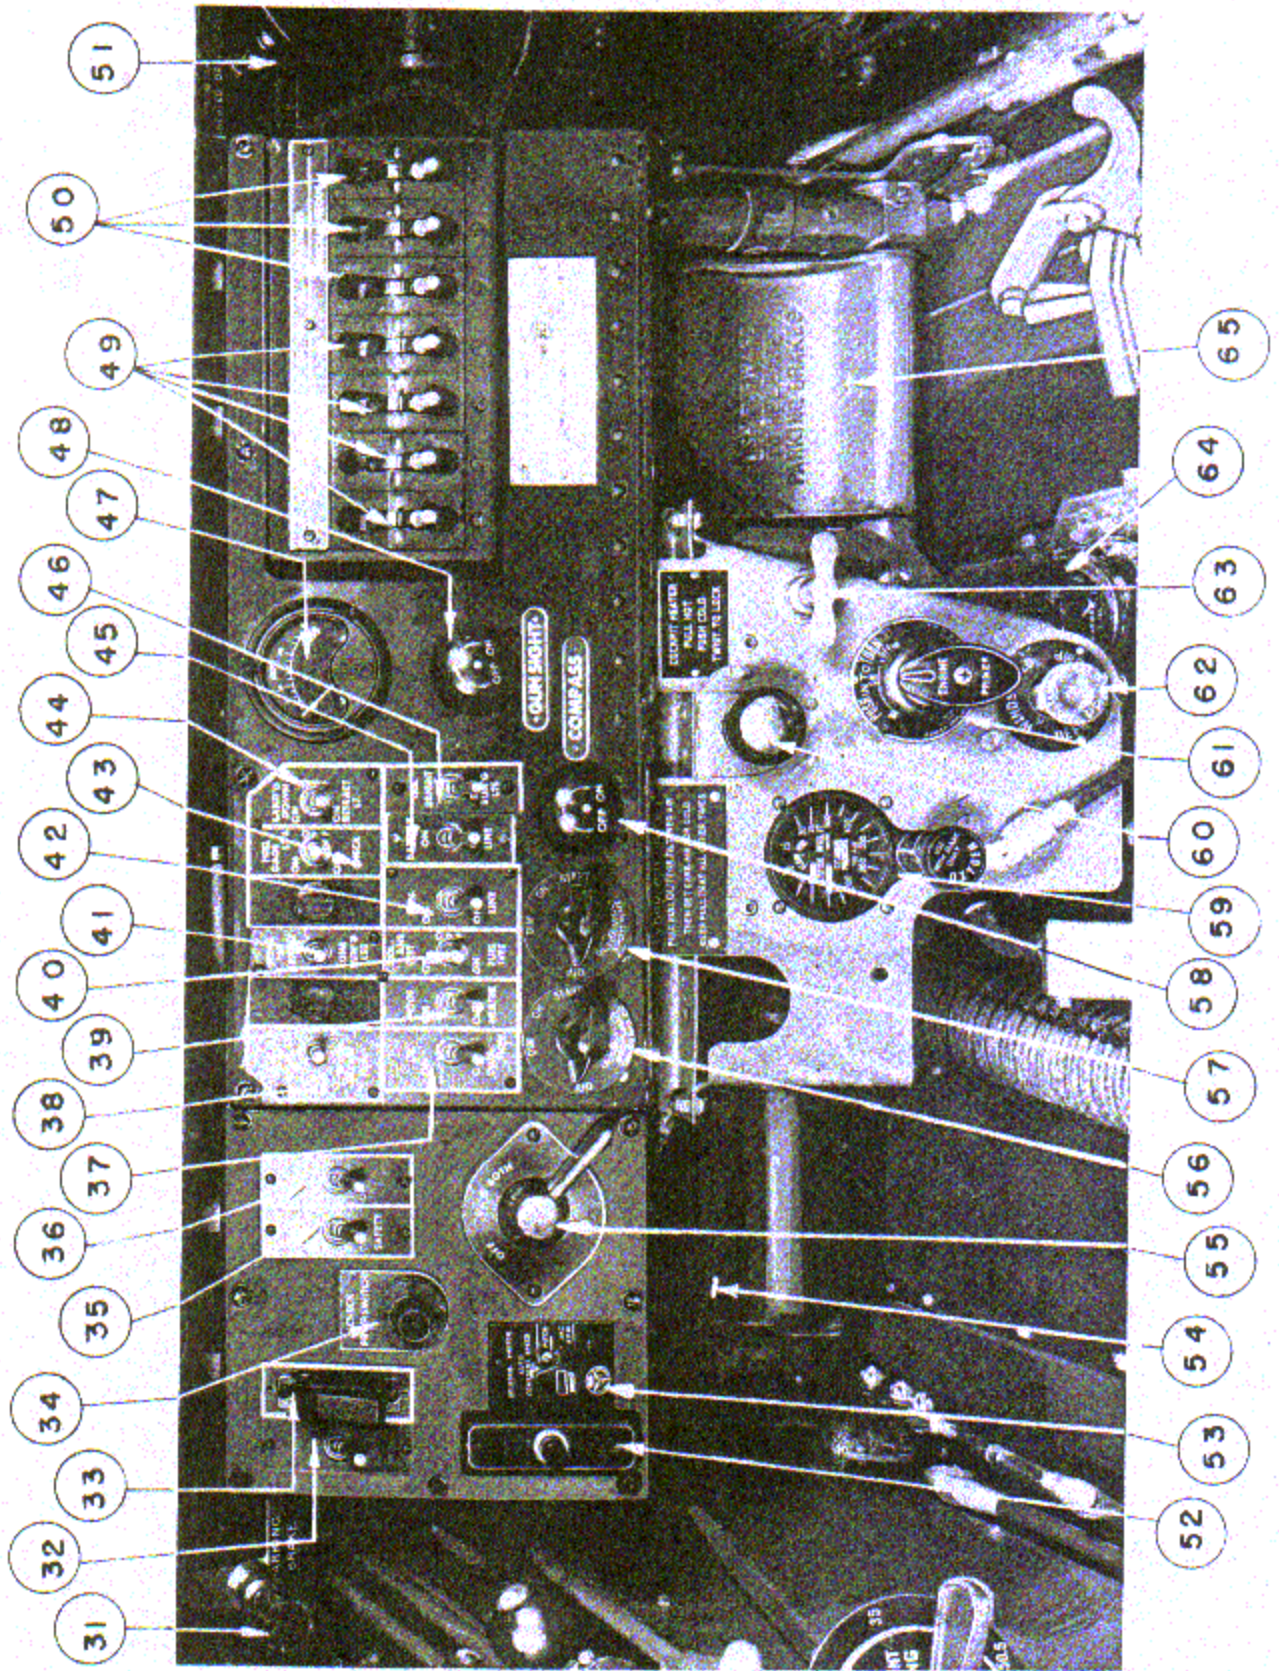
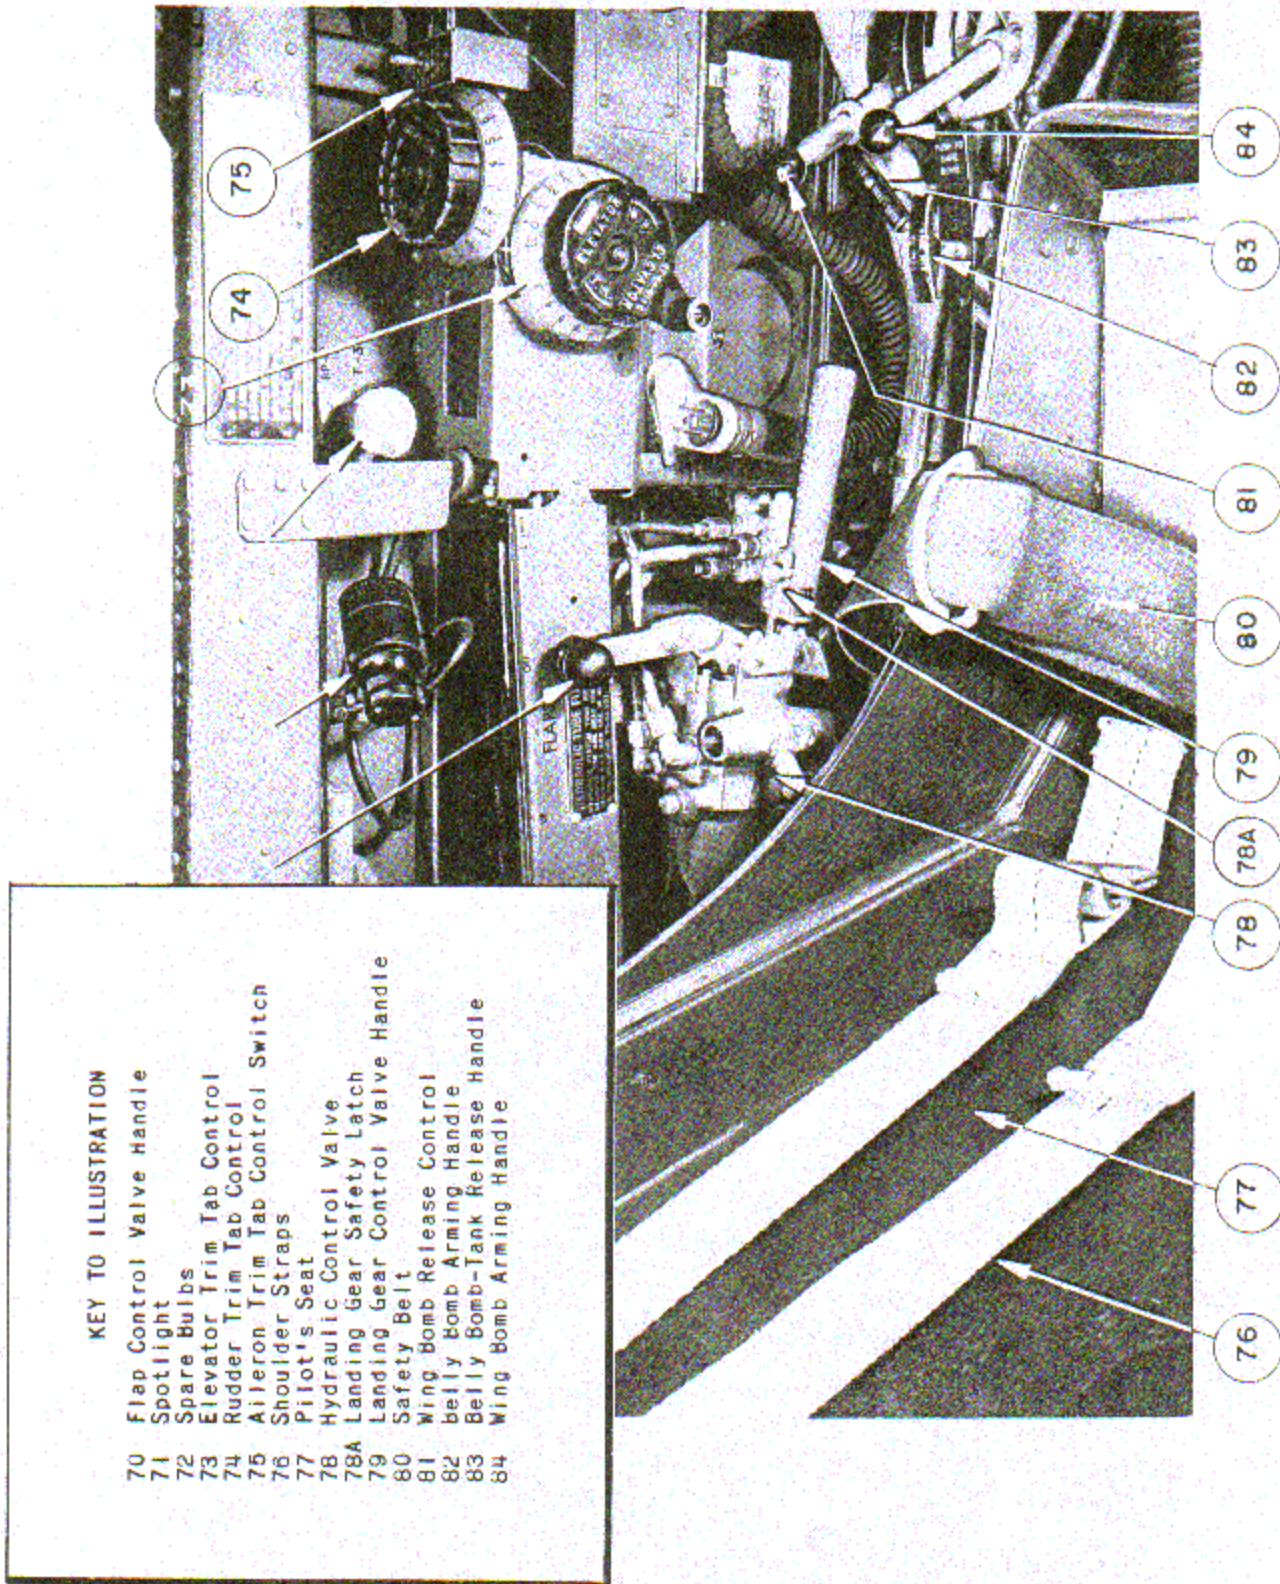
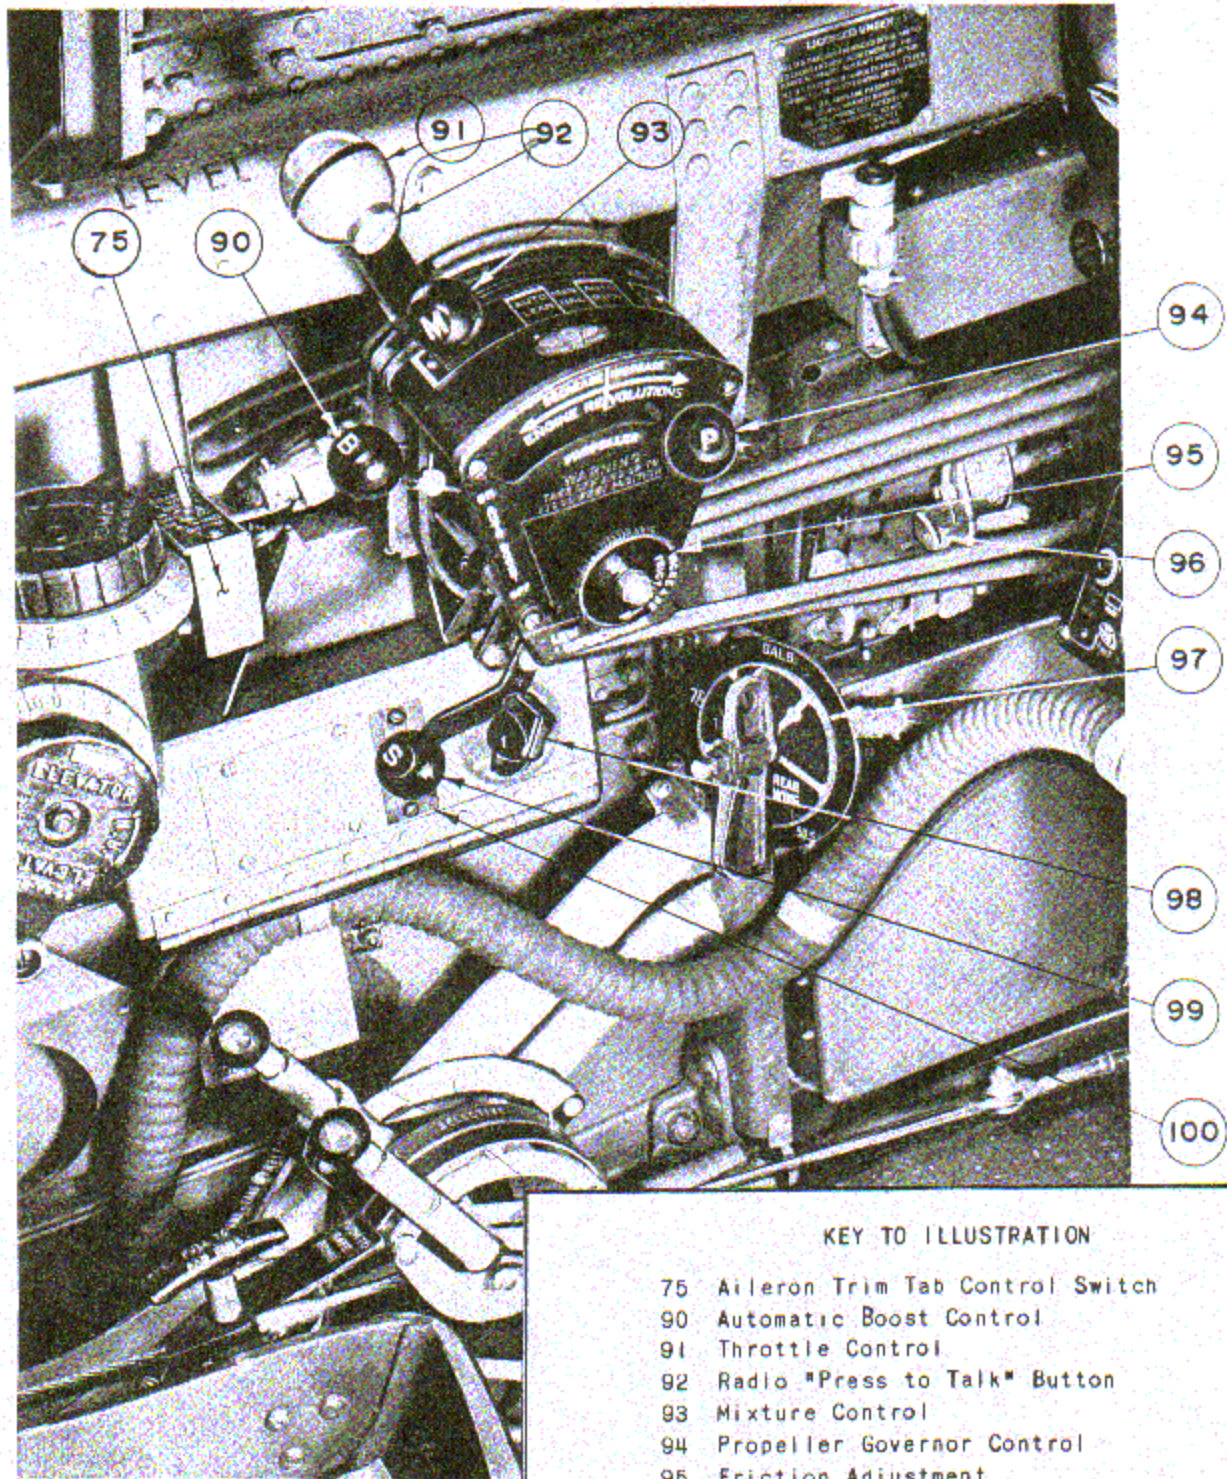

Figure 9 - Main Electrical Switch Panel
Figure 10 - Cockpit - Left Side - Rear
Figure 11 -
(1) Turn battery line switch (figure 9) "ON."
(2) Turn the two cockpit spotlight control knobs on the main switch panel to "START" and hold them in this position for a few seconds until the lights illuminate. Then turn the knobs to the left until the desired intensity of illumination is obtained. The knurled caps which contain the lenses, control the emittance of either visible or ultraviolet light by each 90-degree rotation. The spotlight bases are located as follows:
(3) Test operate the compass light's brilliancy by turning the rheostat control knob (figure 9) clockwise.
(4) Turn the wing tank fuel gage lights "ON." (See figure 9.)
(5) Test operate the running lights.
(b) For airplanes AC-41-13950 and up: Test operate the wing tip running lights switch (figure 9), and the tail running lights switch (figure 9) on "DIM" and on "BRIGHT."
(6) Test operate the landing light for not over 5 seconds. (See figure 9.) When the switch is turned "ON" the light will not glow until after the landing light mechanism has extended the lamp to its operating position.
(7) Test operate the gun sight light. (See figure 9.) Turn the gun sight rheostat clockwise to test the intensity of the light.
(8) A damped rate control handle is located on the right of the cockpit floor between the two hydraulic hand pumps. This handle controls the automatic recognition device mounted in the top of the fuselage forward of station No. 10 bulkhead. When the damped rate control handle is pulled up and then released, the automatic recognition device will eject a flare through an opening in the fuselage skin. The automatic recognition device contains six flares.
(1) Ignition switch "OFF." (See figure 9.)
(2) Battery line switch "ON." (See figure 9.)
(3) Gun safety switch "OFF." (See figure 9.)
(4) Test the cooling system warning light. (See figure 9.) Hold the toggle of the warning light test switch (figure 9) to the up "ON" position and observe if the warning light illuminates.
(5) Test the fuel pressure warning light. (See figure 9.) When the battery line switch is "ON," the warning light should be illuminated. With the mixture control (figure 11) in "IDLE CUT-OFF" operate the electric fuel pump switch (figure 9) and note if the warning light is extinguished when the fuel pressure exceeds approximately 12 pounds per square inch.
(6) Test operate the cowl flap control box. Throw the circuit breaker located in the top of the control
(7) For airplanes AC-41-13600 to AC-41-13944, inclusive, and for airplane AC-41-13998: gun charger valve handles matched with the red markers on the panel and in their out position.
(8) Landing gear control handle "NEUTRAL." (See figure 10.) A small locking device (figure 10) projecting from the top side of the control handle must be held in its "FORWARD" position to permit movement of the control handle upward. The handle can be moved downward without operating the locking device.
(9) Flap control handle "NEUTRAL." (See figure 10.)
(10) Wheelbrakes on. Depress the brake treadles and pull out on the parking brake knob. (See figure 9.)
(11) A general observation of the cockpit must indicate all component parts in place and in perfect operating order.
(12) Check for freedom of movement of the flight control stick and rudder pedals (figure 9) to the extremities of their operating range.
(13) Adjust the rudder pedals to the desired position by pushing inboard on the spring-loaded adjustment lock (figure 9) which will allow the rudder pedal to float free on its hinge. Move the pedal to the desired location and release the spring-loaded lock. "Juggle" the pedal slightly to allow the locking pin to snap into position. Adjust both pedals to the same length.
(14) The cockpit seat may be adjusted for height by lifting the lock release handle on the right side of the seat and raising or lowering the seat as desired. To lock the seat in position, release the locking handle and "juggle" the seat slightly in a vertical direction until the spring-loaded locking device definitely snaps into position. After the seat has been properly adjusted check to be sure that the rear-view mirror at the top of the windshield frame affords a clear view aft. The mirror in the fairing may be adjusted by simply tilting it by hand to the correct angle.
(15) The two ends of the pilot's safety belt (figure 10) are anchored to the cockpit seat and will not require readjustment if the seat is moved. The
(16) The chest type shoulder strap (figure 10) is bolted to the bungee assembly on the back of the seat and the free ends are fastened to the safety belt and may be adjusted the same as the safety belt to fit the individual needs of the pilot. The raising or lowering of the pilot's seat will not affect the adjustment of the shoulder straps.
(17) Check to see if the two spare bulbs forward of station No. 4 bulkhead are secure in place. The top spare bulb is a replacement for the fuel pressure or coolant warning light on the instrument panel or the propeller warning light located on the left of the main control switch panel. The lower bulb is a spare for the cockpit spotlights.
g. Set the propeller governor control (figure 11) for 3000 rpm.
h. Set the mixture control (figure 11) in "IDLE CUT-OFF."
i. Set the throttle control (figure 11) for 800 to 1000 rpm. (approximately one-tenth open).
j. Set the supercharger speed change control (figure 11) in "LOW" gear.